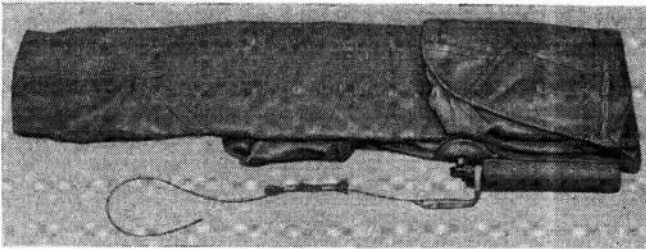

Fig. 6. First lateral fold
18. Turn the bow end of the dinghy over until the folded edge is approximately 1 in. beyond the base of the CO₂ cylinder (*fig. 6*) ; it may be necessary to turn the extreme end under to bring it level with the end of the operating head.